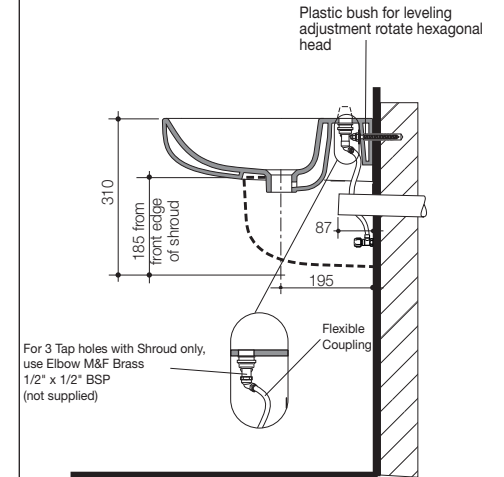
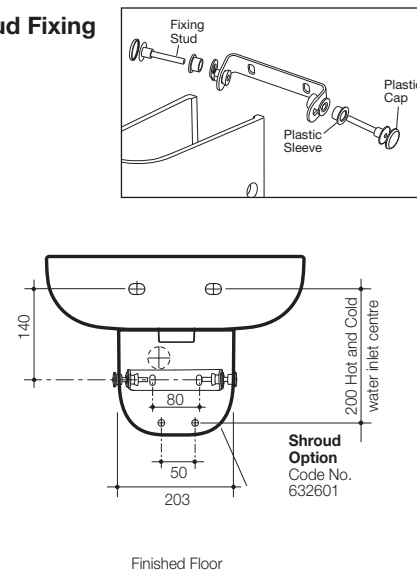

Fig. 2
Fig. 3
- 1- Fix the Concealed Fixing Bracket (supplied) to the wall, as detailed in **Fig. 3**.
- 2- Ensure basin is secured and plumbing is connected. Water inlet connections must be positioned as shown in **Fig. 3**. The brass elbow shown in **Fig. 2** to be used only on 3 Tap hole basin (optional).